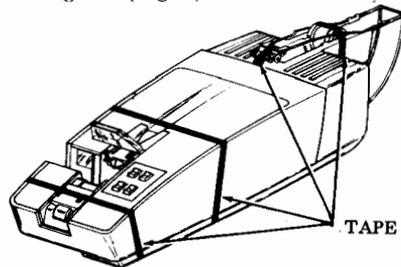

Fig. 5
- 3.05 Carefully remove tape securing the reader cover, chad container, spindle and tape tensioning arm (Fig. 5).
4.03 Place PTU on bench. Tape set as shown in Fig. 5. Place one band of tape around set so that it secures the chad box. Place another band of tape around set so that it secures the reader lid.